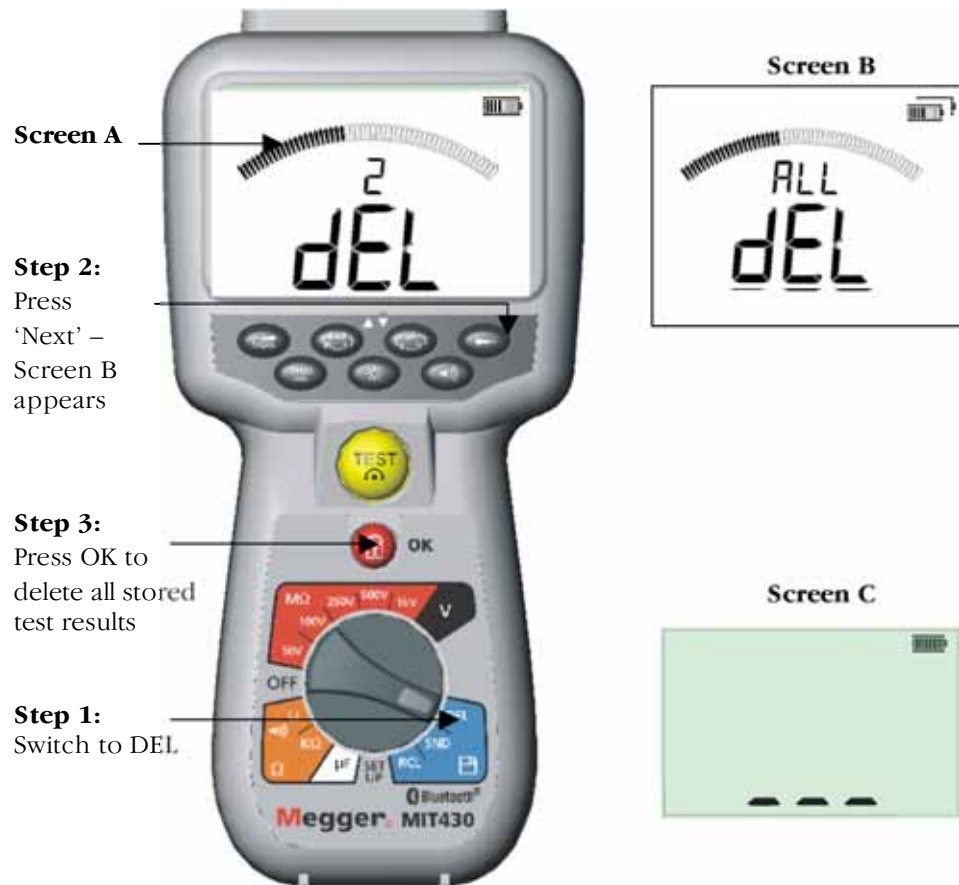

Figure 17 Deleting all test results
16.2 Procedure for deleting all test results (refer to Figure 17)
4. On completion of the deletion progress the display indicates three dashes signifying that no result remains stored. See figure 17 screen C.